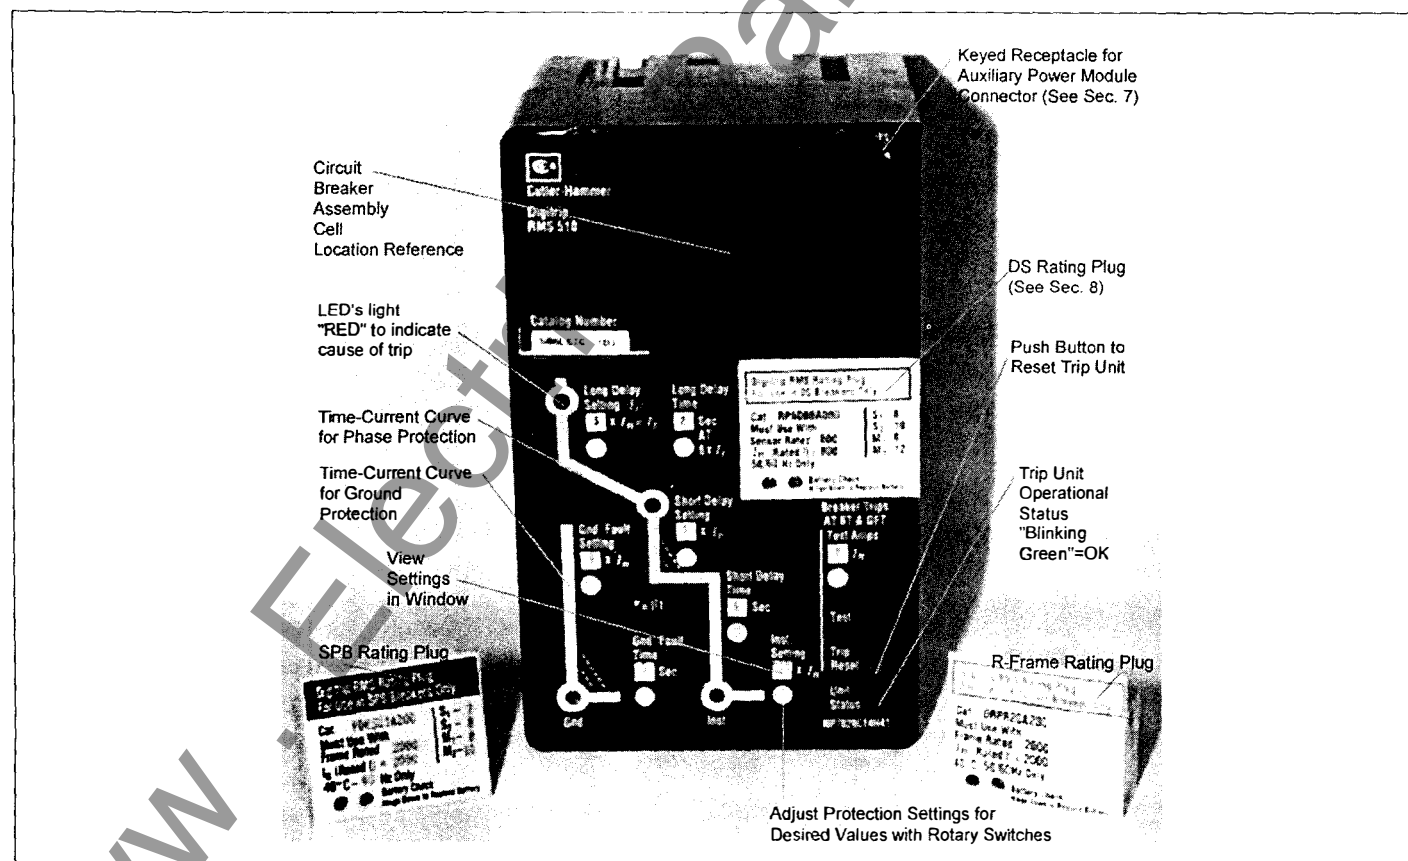
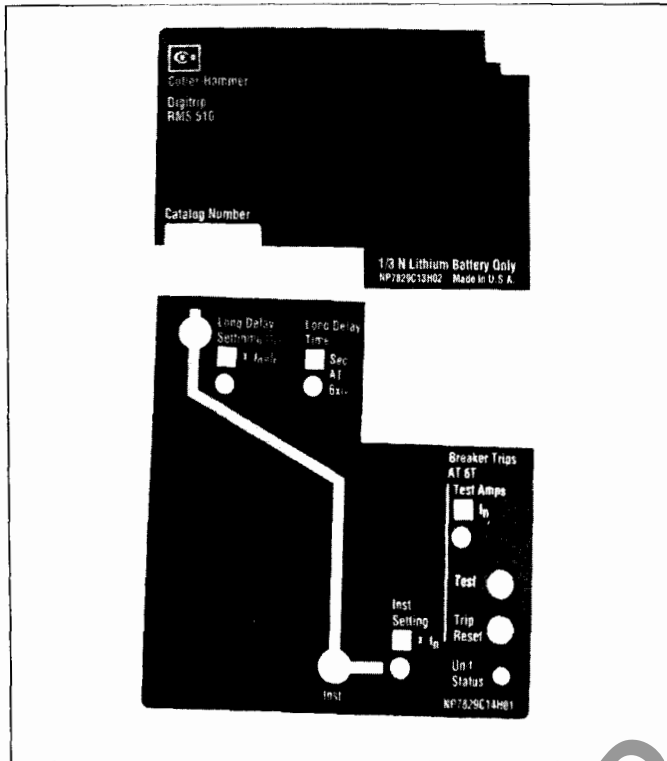
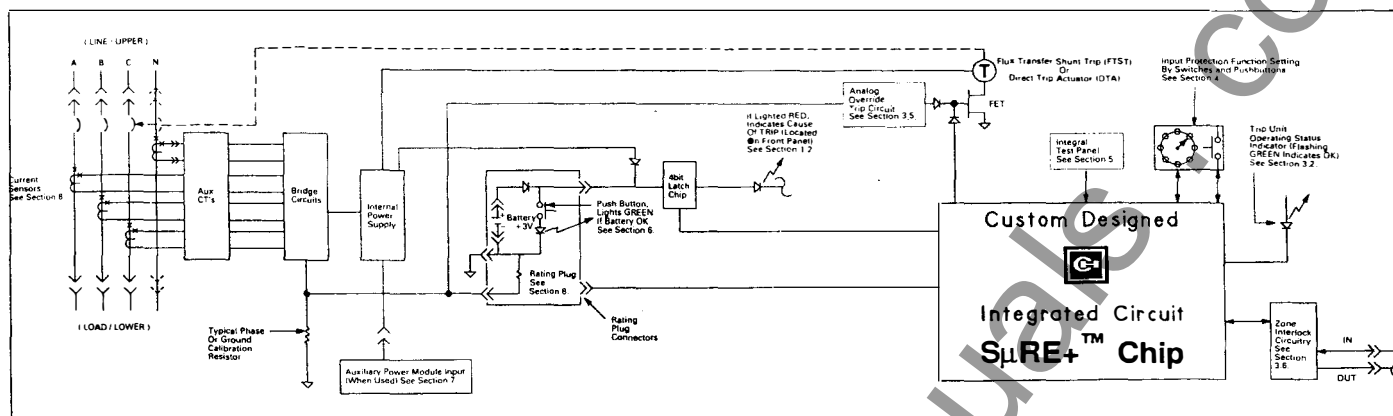
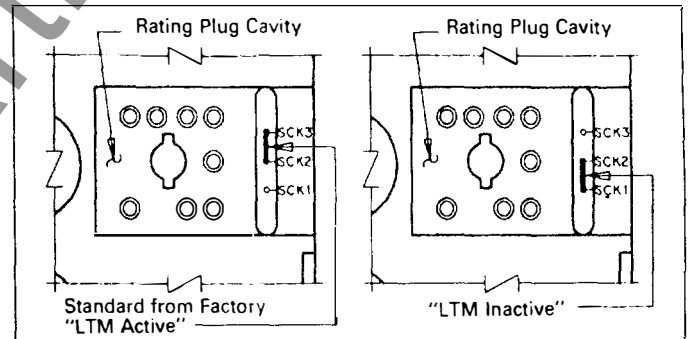

Fig. 1 Digitrip RMS 510 Trip Unit Model LSIG with Rating Plug
Fig. 2.1 Long Time/Instantaneous Protection (LI)
Fig. 3 Digitrip RMS 510 Block Diagram with Breaker Interface
Fig. 4.2.1 Long Time Memory "LTM" Jumper
The Digitrip RMS 510, illustrated in Fig. 1, is a custom application specific integrated circuit based trip unit suitable for use in types DS and DSL low voltage AC power circuit breakers and type SPB Systems Pow-R circuit breakers and Series C® R-Frame molded case circuit breakers.
The Digitrip RMS 510 Trip Unit is available in six different types. Each trip unit may be equipped with a maximum of five phase and two ground (time-current) adjustments to meet specific application requirements. The types of protection available for each model include the following, which are illustrated in Figures 2.1 through 2.6:
The Digitrip RMS 510 Trip unit provides three basic functions: Protection, Information and Testing. A typical trip unit and rating plug are illustrated in Fig. 1. Individual product instruction leaflets referenced in Section 9.0 illustrate typical Digitrip RMS Trip Units installed in specific breakers.
The trip unit employs the Cutler-Hammer Inc. custom designed integrated circuit  $\mu$ RE + chip, which includes a microcomputer to perform its numeric and logic functions. The principle of operation is described by the block diagram shown in Fig. 3.
The LEDs, shown in Figs. 1 and 2.1-2.6, on the face of the trip unit, light "RED" to indicate the reason for any automatic trip operation. As indicated in Figs. 2.1-2.6, each LED is strategically located in the related segment of the time-current curve depicted on the face of the trip unit. The reason for trip is identified by the segment of the time-current curve where the LED is lighted "RED". Following an automatic trip operation, the back-up battery, continues to supply power to the LEDs as indicated in Figs. 3 and 6. To check the status of the battery, see Section 6.
Push the "Trip Reset" button shown in Fig. 1, to turn "Off" the LEDs following a trip operation.
A green colored LED, as shown in Fig. 1, indicates the operational status of the trip unit. Once the load current through the circuit breaker exceeds approximately 10% of the frame/current sensor rating, the green LED will flash "On" and "Off" once each second, to indicate the trip unit is energized and operating properly.
Zone Selective Interlocking (or Zone Interlocking) is available (see Fig. 3) for Digitrip RMS Trip Units having Short Delay and/or Ground Fault protection. Zone Selective Interlocking provides the fastest possible tripping for faults within the breaker’s zone of protection, and yet also provides positive coordination among all breakers in the system (mains, ties, feeders and downstream breakers) to limit the outage to the affected part of the system only. When Zone Interlocking is enabled, a fault within the breaker’s zone of protection will cause the RMS DIG-ITRIP trip unit to:
Prior to placing circuit breaker in operation, each trip unit protection setting must be set to the values specified by the engineer responsible for the installation. The number of settings that must be made is determined by the protector model supplied as illustrated in Figs. 2.1 through 2.6. Each setting is made with a rotary switch, using a small screwdriver. The selected setting for each adjustment appears in its respective rectangular viewing window as illustrated in Fig. 1.
In certain applications it may be desirable to disable the LTM function. The LTM function can be disabled by (first opening the breaker and then) removing the Rating Plug (See Figures 1 and 6), and lastly moving the LTM jumper (inside the rating plug cavity, See figure 4.2.1) to its "INACTIVE" connection. (You can enable the LTM function again any time you wish by moving the LTM jumper back to its original "ACTIVE" connection.)
- 2) There is a condition under which the Long Delay Trip LED can erroneously indicate a LDT has occurred, even though the breaker is still closed. This can happen when an overload current momentarily exceeds the Long Delay Current Setting,  $I_r$ , so that the Long Delay LED flashes "RED" to indicate the overload condition. Then if, at the very moment when the LED is "ON", the load current would then suddenly drop to a value less than 10% of the breaker frame (or current sensor) rating, the trip unit stops functioning while the "4bit Latch Chip" (See Fig. 3) is set and the LED remains Lighted. If the current would again increase to a value above the Long Delay Current Setting,  $I_r$ , and then return to normal, the
**LDT will reset itself. You can of course, manually clear the LDT (or any other trip indication) at any time, by pushing the "PUSH to RESET" button. (See Figure 1.)**